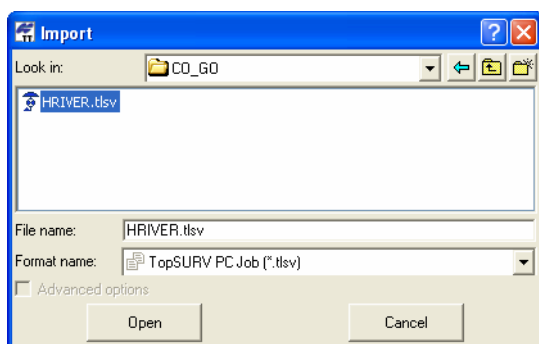

Figure 3-27. Import TopSURV PC Job
4. Click **Open** to import the file (Figure 3-27 on page 3-26).